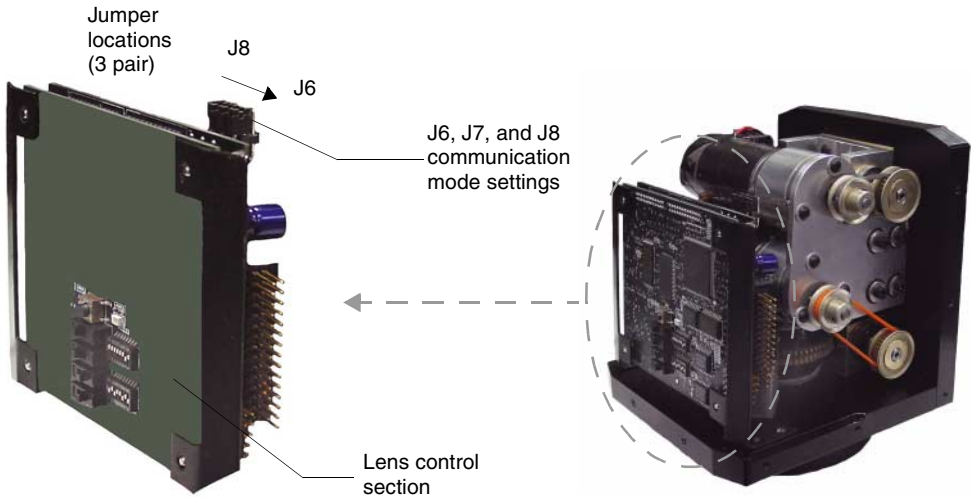

FIG. 10 Communication mode jumpers J6, J7, and J8 (factory default set to AXlink)
- 1. Locate jumpers J6, J7, and J8 communication mode jumpers on the Mother PCB (FIG. 10). The connectors and the main board are mounted onto the pan base.